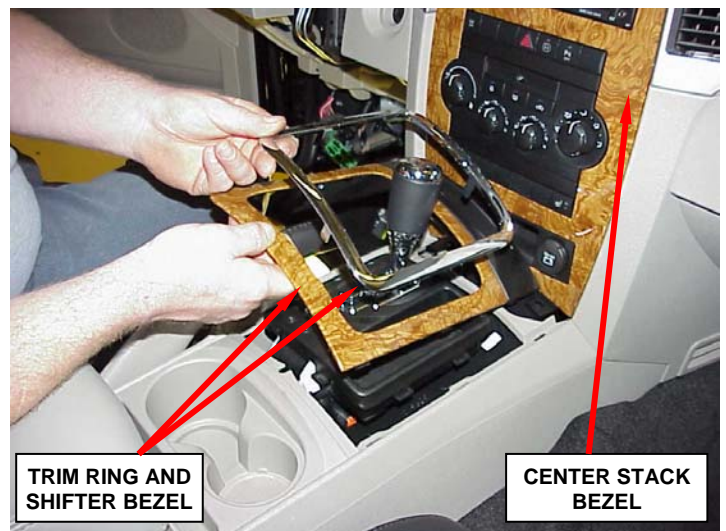

Figure 2 – Trim Ring & Shifter Bezel
14. Remove the shifter console chrome trim ring and shifter bezel (Figure 2).
15. Remove the instrument panel center stack bezel (Figure 2).
- 53. Install the instrument panel center stack bezel (Figure 2).
- 54. Install the shifter console wood grain shifter bezel and chrome trim ring (Figure 2).